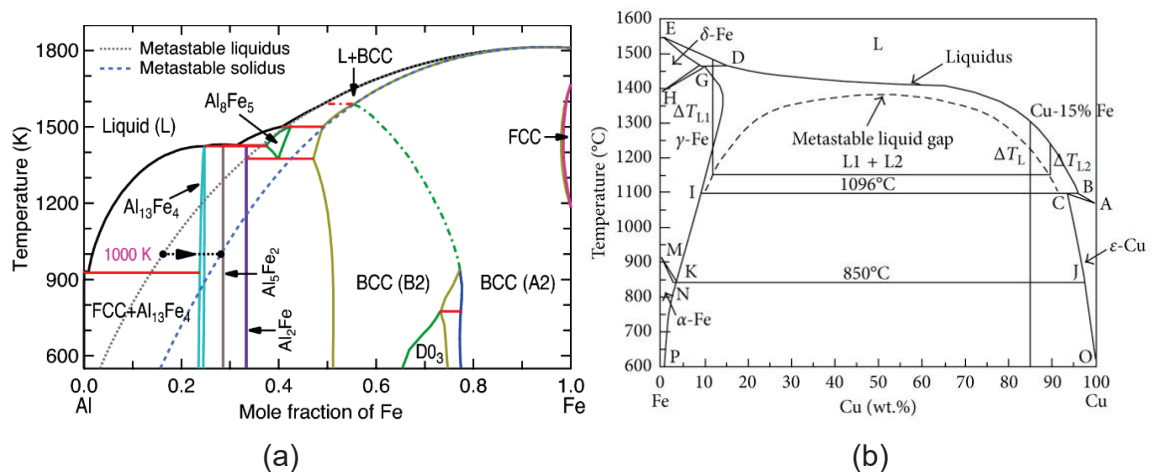

Figure 1: (a) Phase diagram Al-Fe / (b) Phase diagram Fe-Cu
- (3). (a). Figure 1 (a) and (b) give phase diagram of Al-Fe and Fe-Cu respectively. Al-Fe system has intermetallic compounds (IMC), shown in phase diagram as straight line or narrow region, whereas the Fe-Cu system only has solid solutions. Based on these information answer the following: